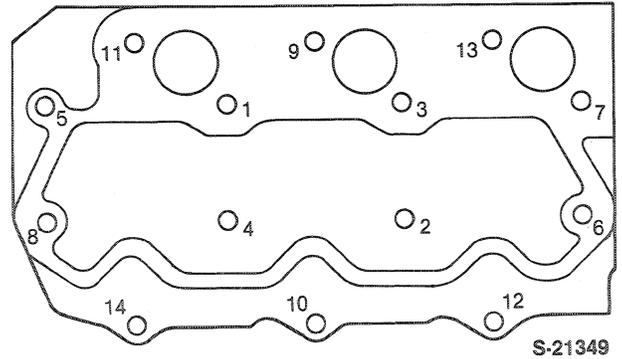

Figure 50
5. Lubricate the head bolt and stud threads and tighten in stages in sequence as shown, Figure 50.